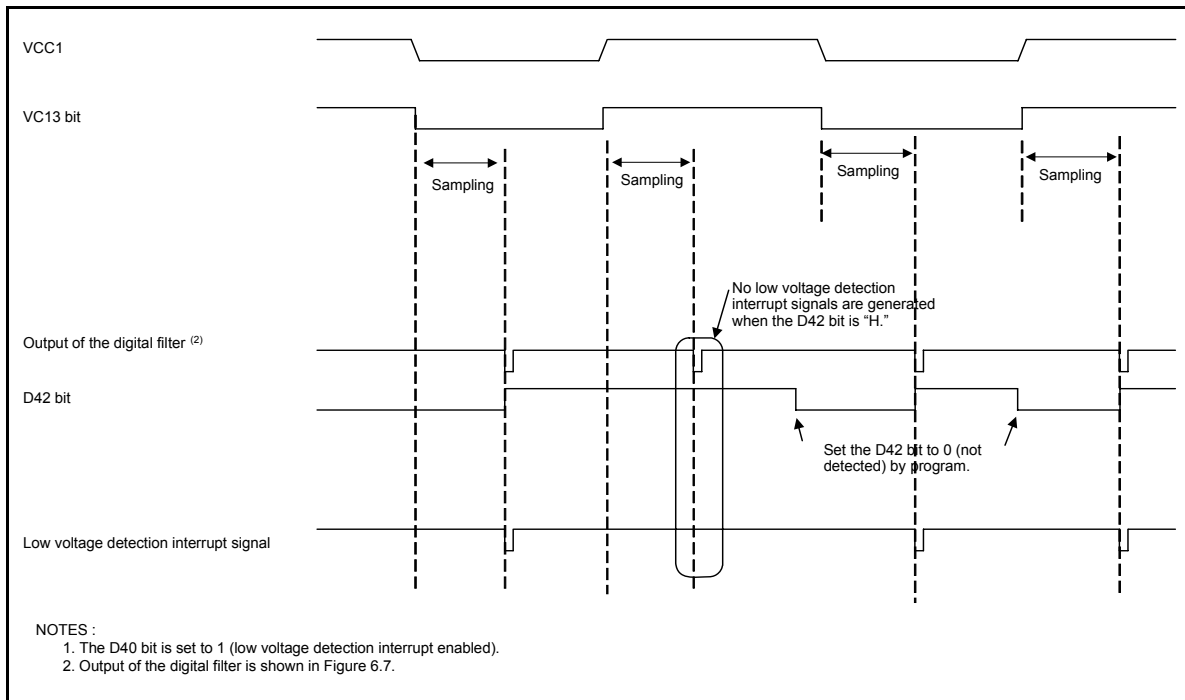

Figure 6.8 Low Voltage Detection Interrupt Generation Circuit Operation Example
3. An interrupt request for voltage reduction is generated after the value of the VC13 bit changes and a sampling time elapses. See Figure 6.8 "Low Voltage Detection Interrupt Generation Circuit Operation Example" for details.